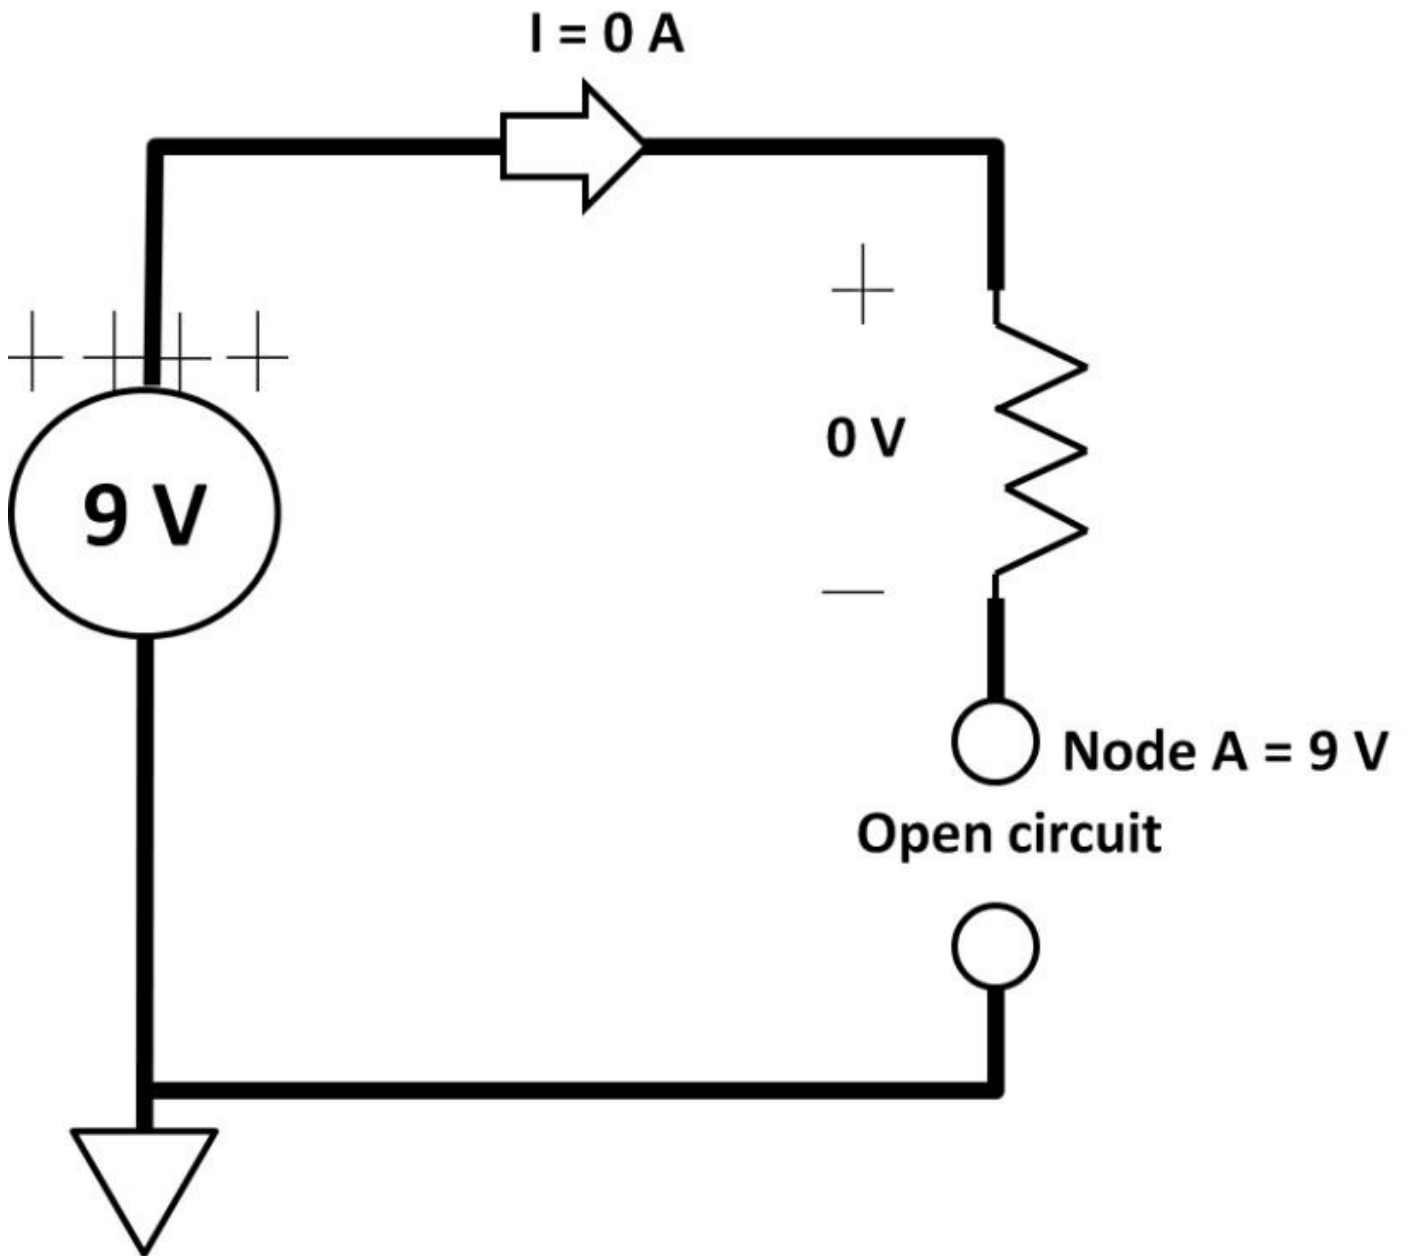

Figure 1.33: Open circuit
6) Is it true that if you have voltage, you always have current? What about the circuit in figure 1.33? What is the voltage at node A assuming 9 V is an ideal source? The answer is no, not always. The circuit below is a series circuit with a broken loop. No current is able to flow through the loop due to infinite resistance from the open circuit. Using Ohm's law, there is 0 V drop across the resistor, $V = I \times R = 0 \times R = 0 \text{ V}$ The resistor potential difference can be derived: